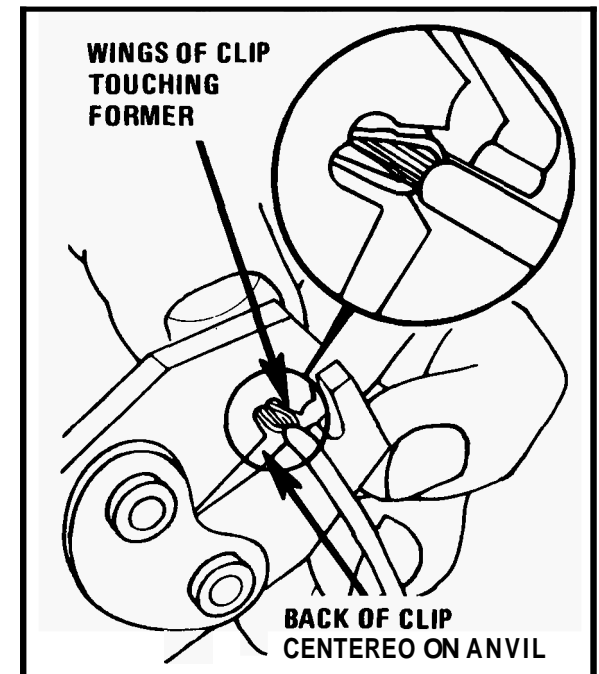

Figure 8 - Crimping The Splice Clip
- Make sure that the clip and wires are still in the correct position. Then, apply steady pressure until the crimping tool closes (see Figure 8).